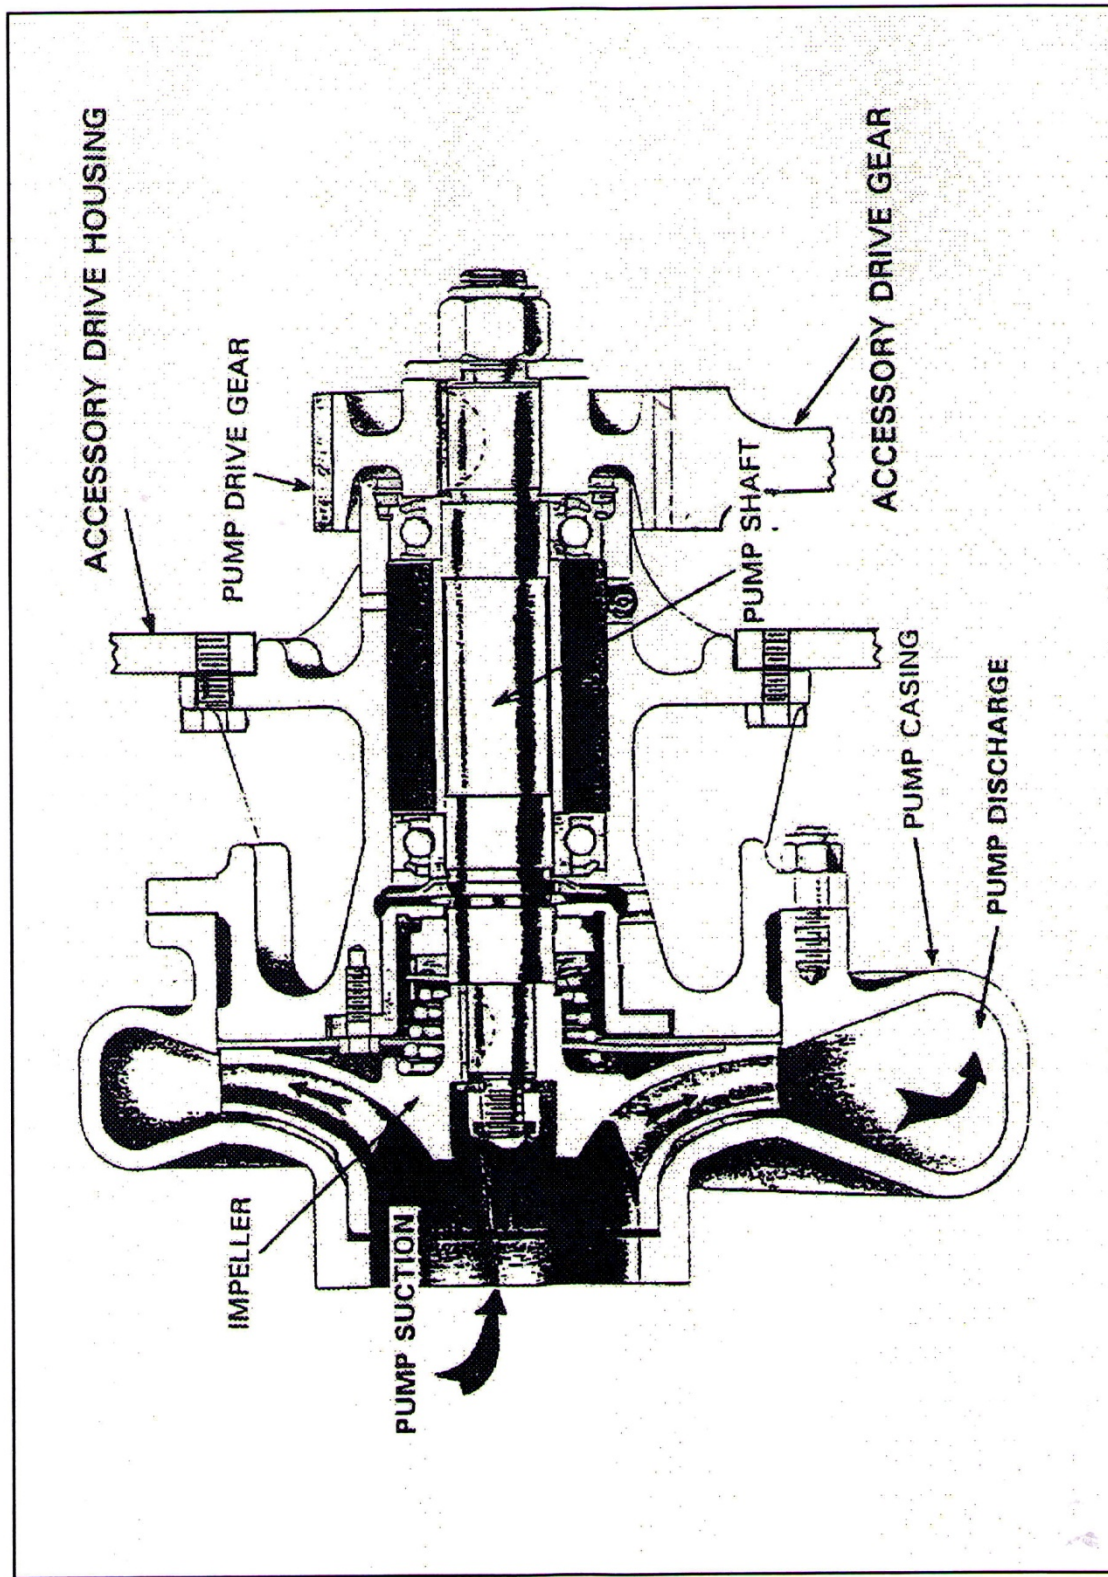

Figure 6-2 Jacket Water Pump
6.1.2.3 Jacket Water Pump - The engine-driven jacket water pump, shown in Figure 6-2, is a single stage centrifugal pump driven by the engine's crankshaft through a series of gears.